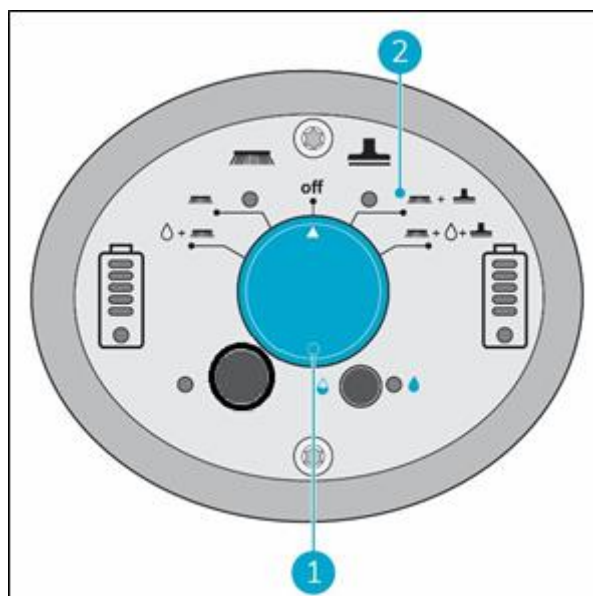

Figure 21
1. Use the i-mop XL Plus main switch (Figure 21, pos 1) and choose MODE 3 Brush + Dry vacuum (Figure 21, pos 2).